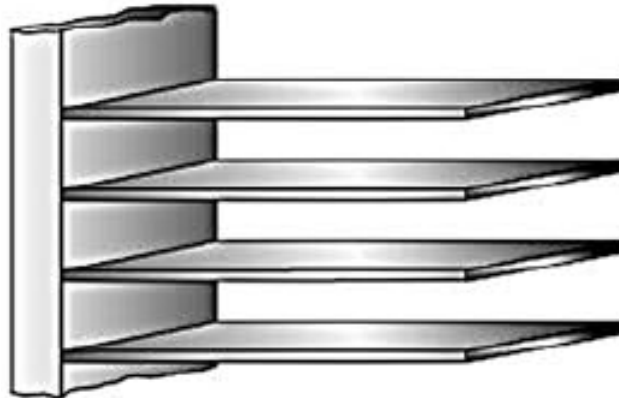

Figure P7.7
7. Aluminum fins with rectangular profiles shown in **Figure P7.7** are used to remove heat from a surface whose temperature is 150°C . The temperature of the ambient air is 20°C . The thermal conductivity of aluminum is $168 \text{ W/m}\cdot\text{K}$. The natural convective coefficient associated with the surrounding air is $35 \text{ W/m}^2\cdot\text{K}$. The fins are 150 mm long, 5 mm wide, and 1 mm thick. (a) Determine the temperature distribution along a fin using five equally spaced elements. (b) Approximate the total heat loss for an array of 50 fins. (c) Determine the temperature of a point on the fin 45 mm from the base. Also compute the fraction of the total heat that is lost through this section of the fin.